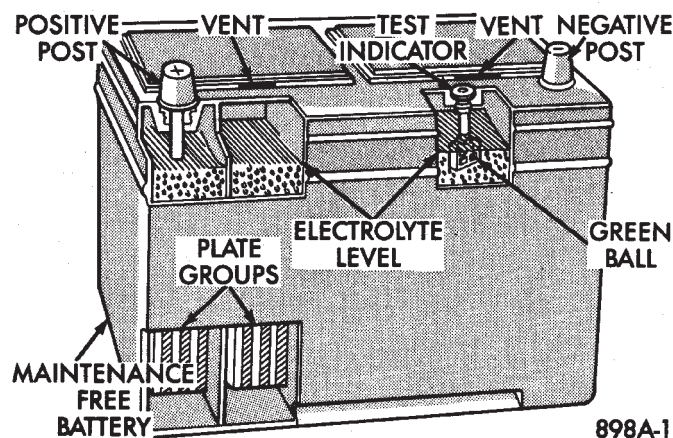
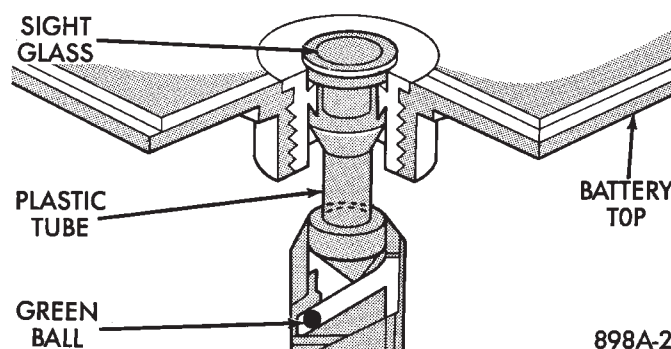

Fig. 3 Battery Construction and Test Indicator
Fig. 4 Built in Test Indicator
The battery stores, stabilizes, and produces electrical current to operate various electrical systems in the vehicle. The determination of whether a battery is good or bad is made by the battery's ability to accept a charge. It also must produce high amperage current output over an extended period to be able to start the vehicle. The capability of the battery to store electrical current comes from a chemical reaction. This reaction takes place between the sulfuric acid solution electrolyte and the lead +/- plates in each cell of the battery. As the battery discharges, the plates react with the acid from the electrolyte. When the charging system charges the battery, the water is converted to sulfuric acid in the battery. The amount of acid, specific gravity in the electrolyte can be measured with a hydrometer. The factory installed battery is equipped with a built in hydrometer as a test indicator (Figs. 3, 4 and 5) to help in determining the battery's state of charge. The factory installed battery also is sealed. Water cannot and should not be added.
The battery is vented to release gases that is created when the battery is being charged and discharged. The battery top, posts, and terminals should be cleaned when other under hood maintenance is performed (Fig. 3).
(Figs. 4 and 5), the battery must be replaced. Refer to Test Indicator. The battery must be completely charged with a green color in sight glass. The top, posts, and terminals should be properly cleaned before diagnostic procedures are performed. Also refer to Group 8B, Battery/Starter/Alternator Service.
The test indicator a hydrometer is viewed through a sight glass, it is built into the top of battery case (Figs. 3, 4 and 5). This provides visual information for battery testing. The test indicator sight glass is to be used with diagnostic procedures described in this Group.
The built in test hydrometer (Figs. 3, 4 and 5) measures the specific gravity of the electrolyte. Specific Gravity (SG) of the electrolyte will show state of charge voltage. The test indicator WILL NOT show cranking capacity of the battery. Refer to Battery Load. Look into the sight glass (Figs. 4 and 5) and note the color of the indicator (Fig. 5). Refer to the following description of colors: